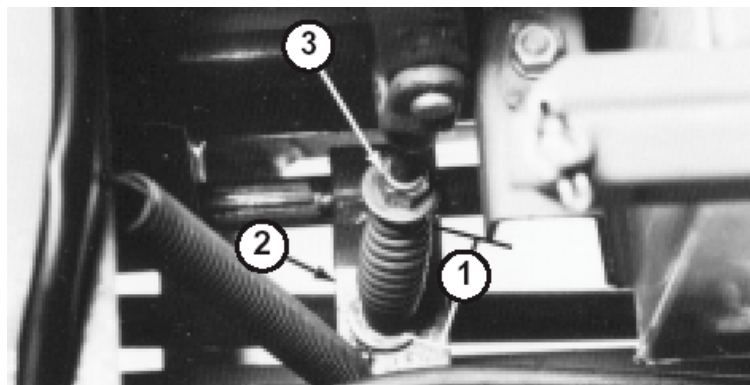

Figure 60
4. Measure length of PTO spring between flat-washers (Fig. 60). There should be a spring length of 3-3/16 in. (81 mm).
5. To adjust, hold head of adjusting screw with wrench (under PTO actuating arm) and turn locknut (Fig. 60).